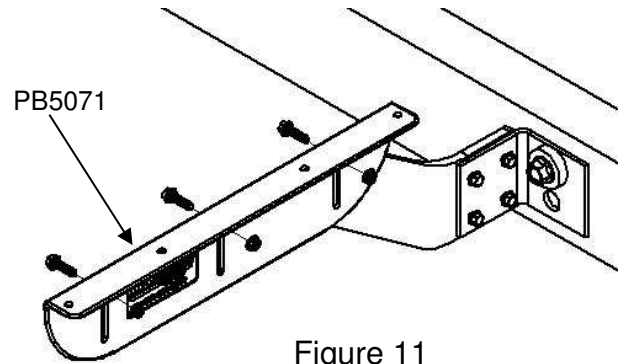

Figure 11
- a. In these cases use the plastic angle (PB5071) to connect the fenders to the center bracket assembly (Figure 11).